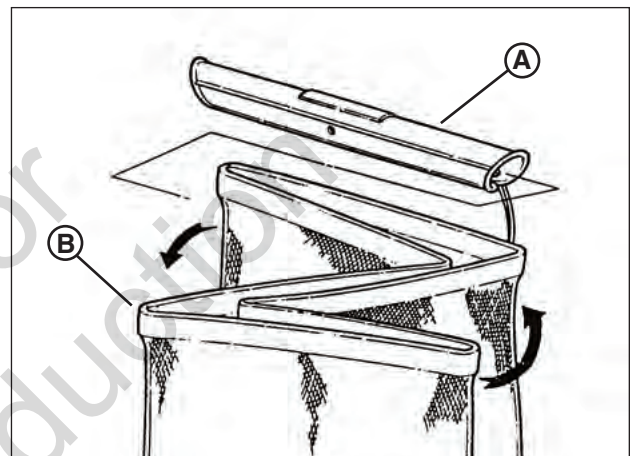

Figure 13: Removing the bag slider
2. Open the bag by pulling the bag slider (**A**, **Figure 13**) off of the Z-fold at the rear of the bag (**B**).